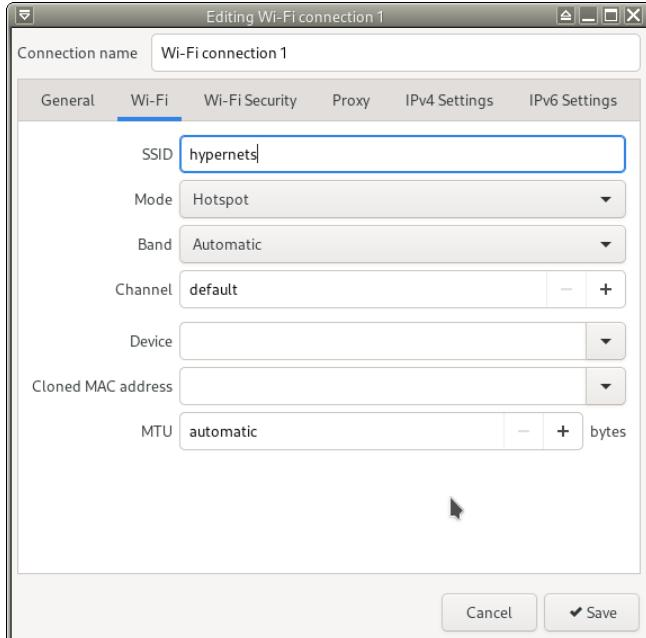

Figure 30: Edit Connections
- First, right click on the connection logo in the bottom right corner of the screen and click *Edit Connections...* (see figure 30).